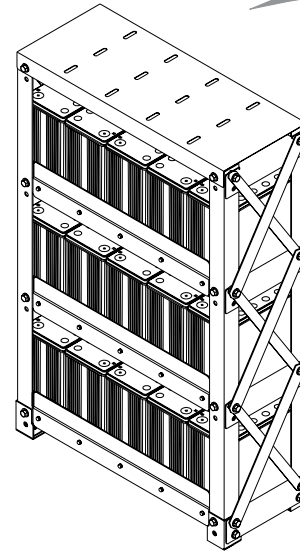

Figure 8.6
- Install retainers. The retainer should not exert any force on the bloc jar after it is installed. A minimal gap (equal to the thickness of a business card) should exist between the installed retainer and jar. The retainer bolts do not have to be torqued tight but the lock washers must be flattened out against the retainer. See Figure 8.6.